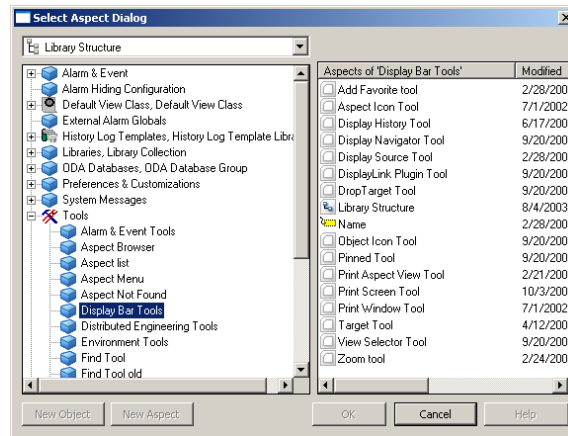

Figure 34. Add Display Bar Tools
5. Select the Display Bar Tools aspect and select the tool to add in the right-hand view. See Figure 34.